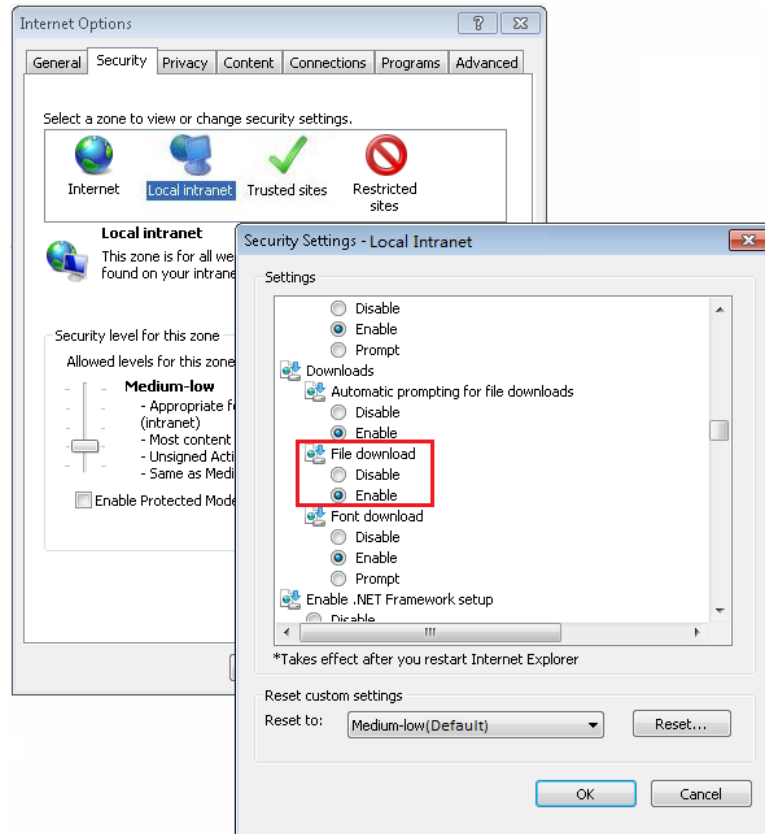

Figure 3-6 Enabling file download
4. In the window shown in Figure 3-6, set **Enable** for **File download**.